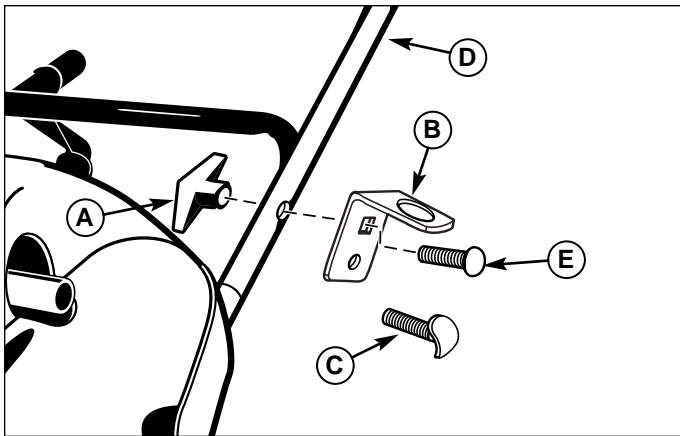
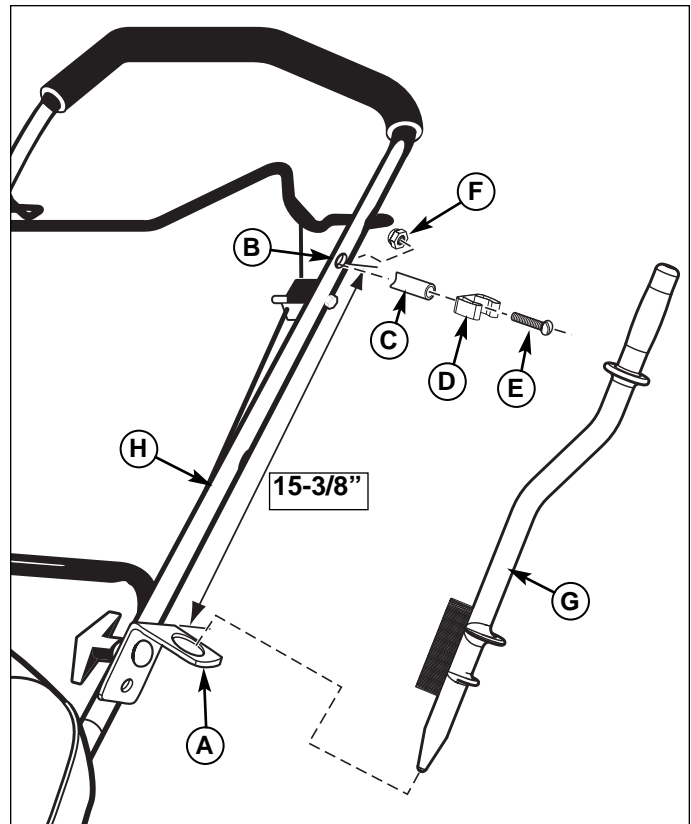

Figure 7. Mounting Lower Bracket (520)
Figure 8. Mounting Clean-Out Tool (520)
1. Remove wing lock knob (A, Figure 7) and carriage bolt (E) or screw (C) from hole on left side handle (D) as shown. Discard screw (C) if it was used originally.
2. Using square hole install lower bracket (B) into hole on left side handle (D) as shown. Secure with existing or new 5/16-18 x 1-3/4 carriage bolt (E) and wing lock knob.
3. Measure 15-3/8" from top of bracket (A, Figure 8) to center of handle (B). Center punch and drill a new 13/64 hole (B) in handle (H).
4. Attach clip (D) to handle (H) securing with #10-24 x 2-1/2 screw, 1-1/4" spacer (C), and #10-24 locknut (F) mounting through new hole (B).
5. Attach clean out tool (G) to handle (H) by first placing pointed end into bracket (A), then pushing hand grip into clip (D).